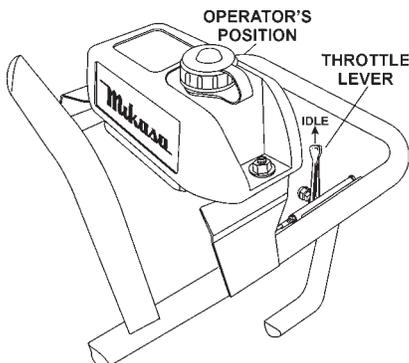
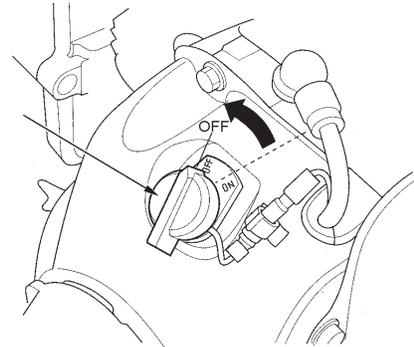

Figure 10. Throttle Lever (Idle)
Figure 11. ON/OFF Switch (Off Position)
1. Move throttle lever quickly from the **FULL OPEN** to **IDLE** position (Figure 10) and run the engine for three minutes at low speed. After the engine **cools**, turn the engine start/stop switch to the "**STOP**" position (Figure 11).